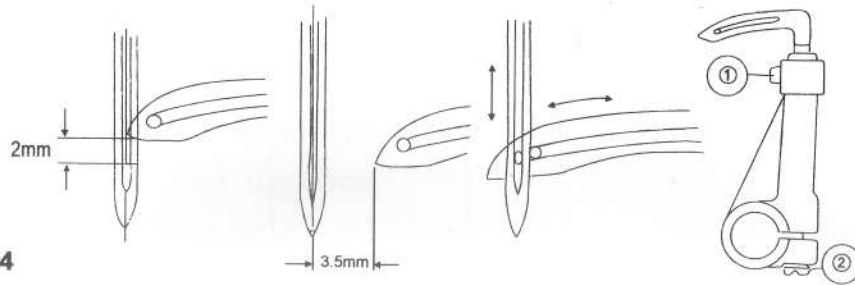

Fig.24
19. Thread-guiding amount of the looper (refer to Fig.24)
- 1) The standard value of the vertical distance of the point of the looper away from the upper end of the eye of the needle is 2mm, then the graduation mark on the lower part of the needle bar shall be in line with the lower end of the needle bar bushing, lower.(refer to Fig.24)
- 3) The relation between the eye of the needle and the eye of the looper is indicated in Fig.24.